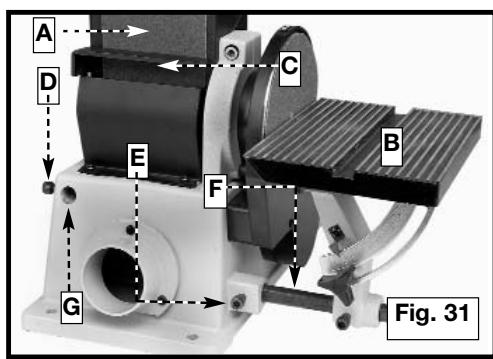

Fig. 31
When you use the sanding arm (A) Fig. 31 in the vertical position, you can move the complete table assembly (B) from the disc unit to the belt unit.
1. Remove the backstop (C) Fig. 31.
2. Thread the M8 x 1.25 x 20mm hex socket head screw (D) Fig. 31 **ONLY PART OF THE WAY** into the base casting.
3. Loosen the screw (E) Fig. 31, and remove the table assembly (B) from the disc unit. Insert the bar (F) into the hole (G) on the belt unit. Align the flat on the shaft with the screw in the casting and tighten the screw.